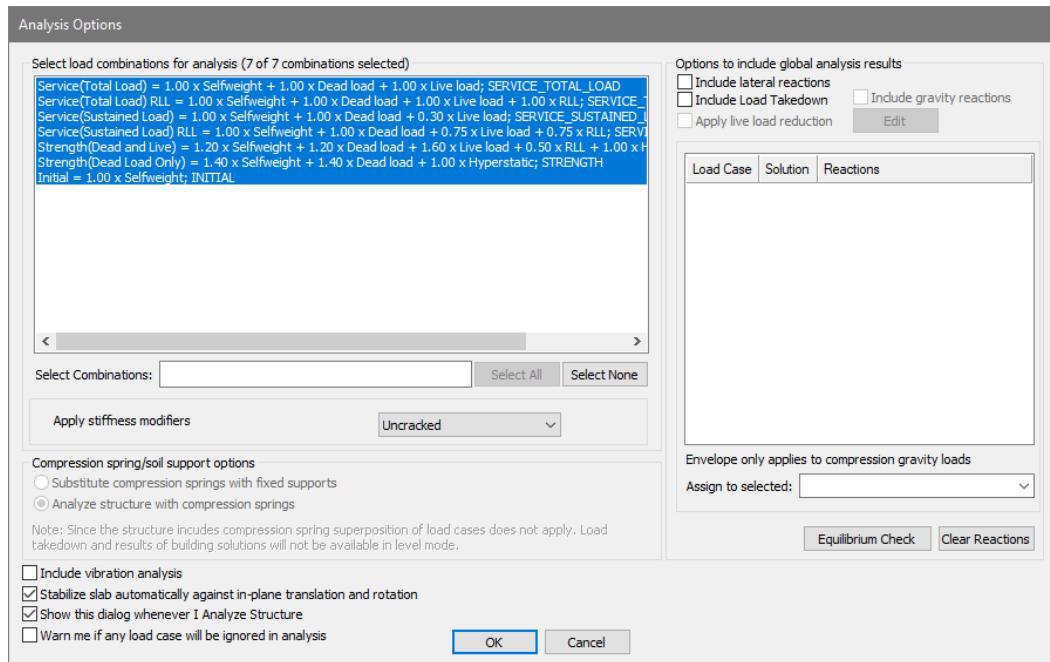

Figure 10-19
- In the Analysis Options window select all load combinations as well as the options as shown in **FIGURE 10-19**.